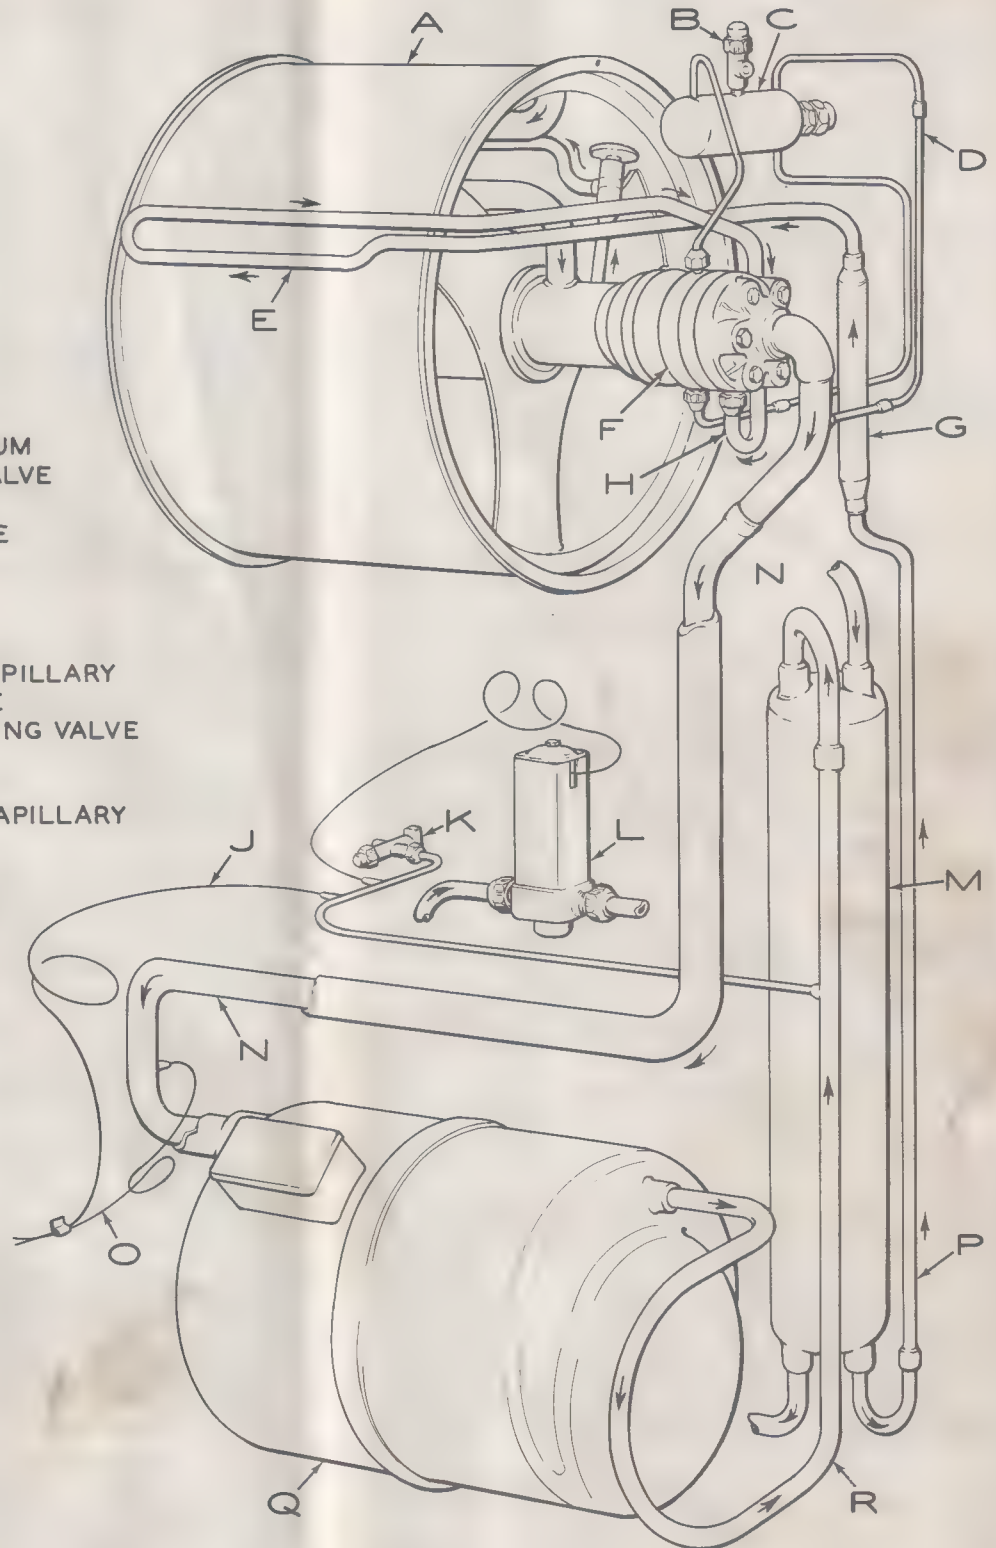

Fig. 11
- (e) Install a suction and discharge gauge. Connect the suction gauge to the 1/4" seal capped oil pot charging and drain valve shown in Fig. 11, and the discharge gauge to the 1/4" seal capped charging connection.
as described under STARTING THE UNIT. This gauge will indicate the suction pressure which should be 37 psi, plus or minus 1 psi. If the suction pressure is low, and ice is not forming across the entire surface of the drum when the constant pressure expansion valve is properly adjusted, insufficient refrigerant is indicated. Or, if it is determined that the unit has lost the charge, the leak must be repaired immediately. Refer to Fig. 11, and apply corrective measures as covered in Instruction 2N-1, (Leak Testing, Evacuating, Dehydrating, Refrigerant Charging).